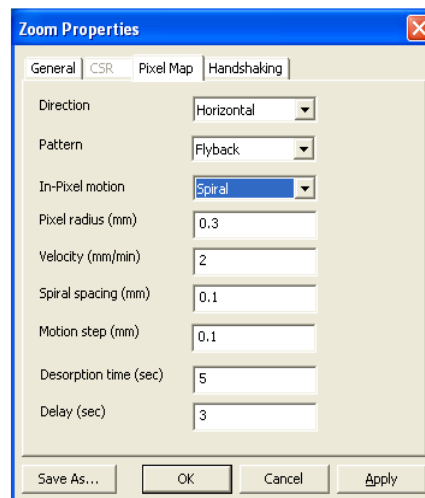

Figure 7.12.8 Pixel Map Properties
3. Choose the necessary properties for the data in the **Pixel Map** tab; the properties should be specified to the user's needs. Figure 7.12.8 shows a screenshot of the default settings: